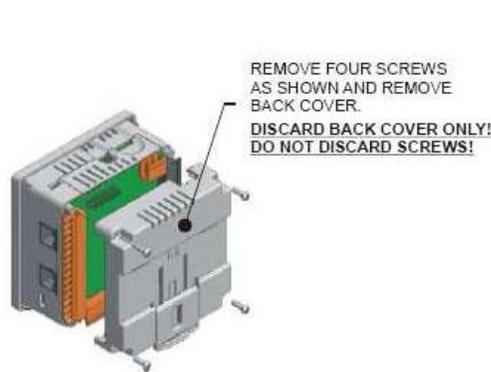

Figure 1 - Removing Back Cover of the XLE
2. Remove the four screws on the back of the X-Series unit and remove the back cover. The back cover will be replaced with the extended back cover that ships with the I/O add-on. Screws are re-used (Figure 1).